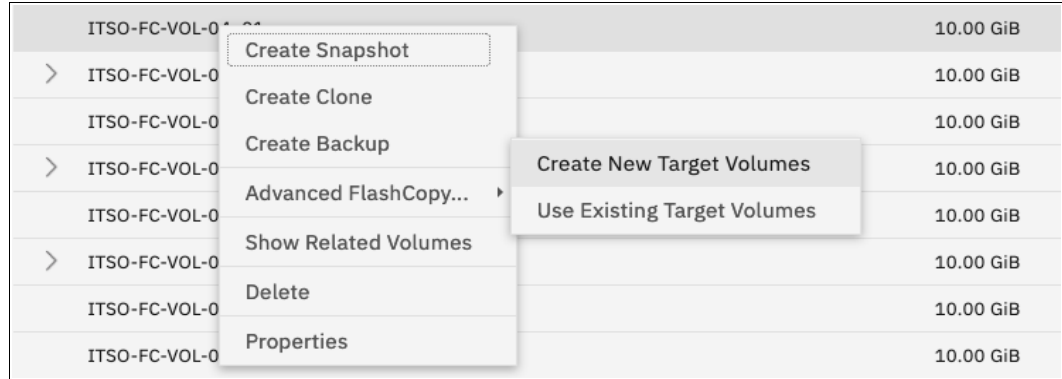

Figure 10-27 Creating a FlashCopy mapping and targets
1. Right-click the volume that you want to create a FlashCopy mapping for and select **Advanced FlashCopy** → **Create New Target Volumes**, as shown in Figure 10-27.